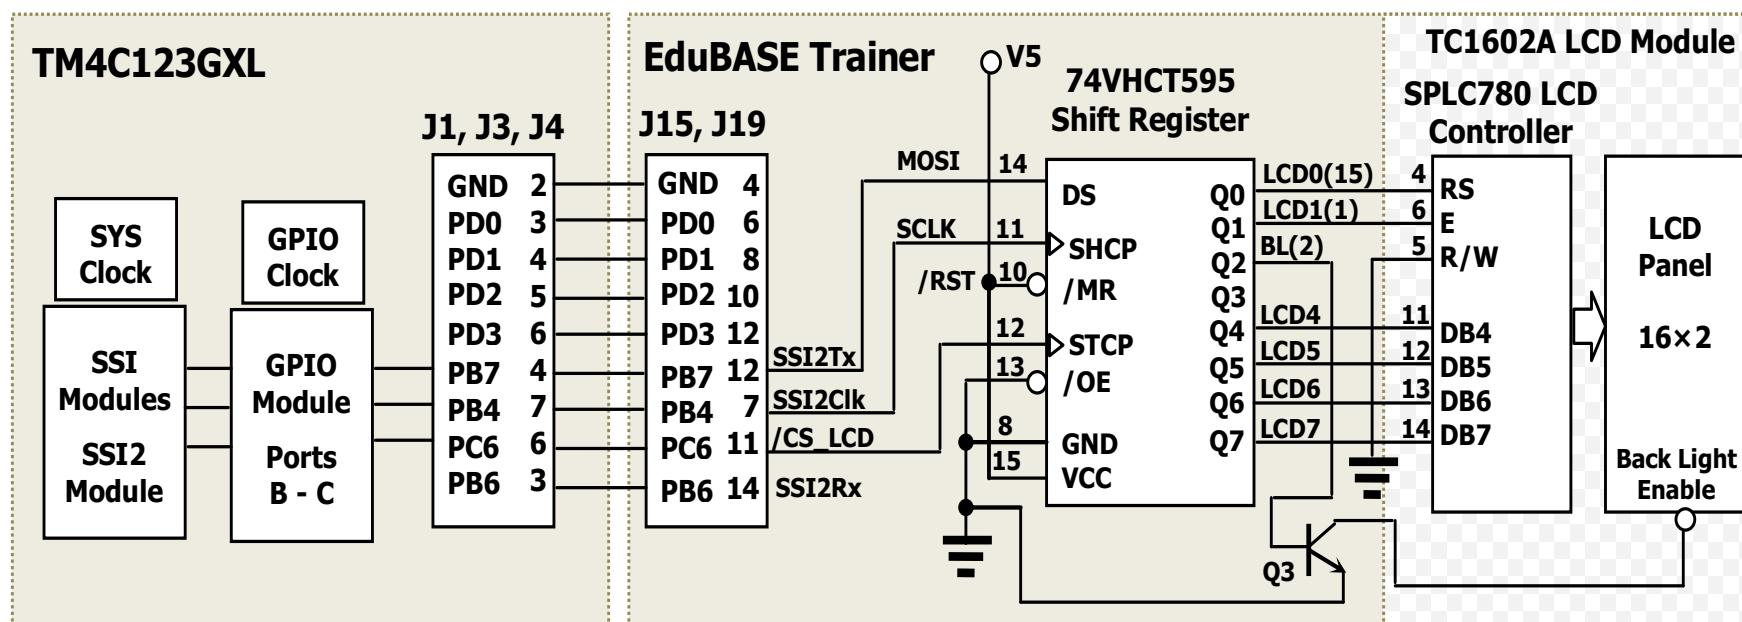

Figure 8.18 Hardware configuration of the LCD interfacing circuit.
- A functional block diagram of this interface circuit connected to the LCD installed in the EduBASE ARM® Trainer is shown in Figure 8.18 (next slide).
- It can be found from Figure 8.18 that the SSI module 2 is connected to the **HCOMS** shift register **74VHCT595** via GPIO Ports B, exactly **PB7**, **PB6** and **PB4** pins.
- The functions of these pins are (Figure 8.18):
- The **OE** pin is connected to the ground to enable 8 latched outputs to be directly transferred to the output pins (refer to Figure 8.18).